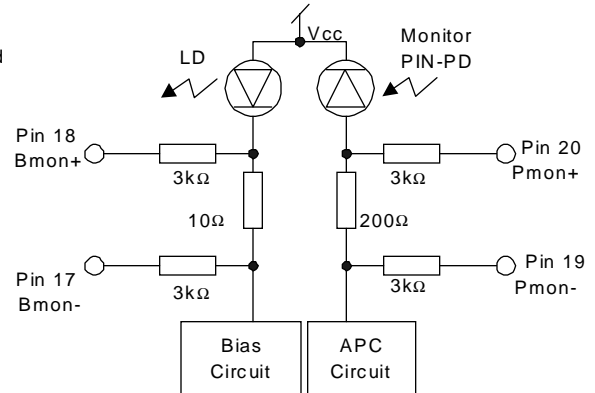

Figure 14. Bmon and Pmon Interface
2. Refer to figure 14 for details of Bmon and Pmon outputs.
9. The Laser Bias Monitor Current and Rear Facet Monitor Current are calculated as ratios between the corresponding voltages and current sensing resistors, 10Ω and 200Ω, as shown in the figure 14.